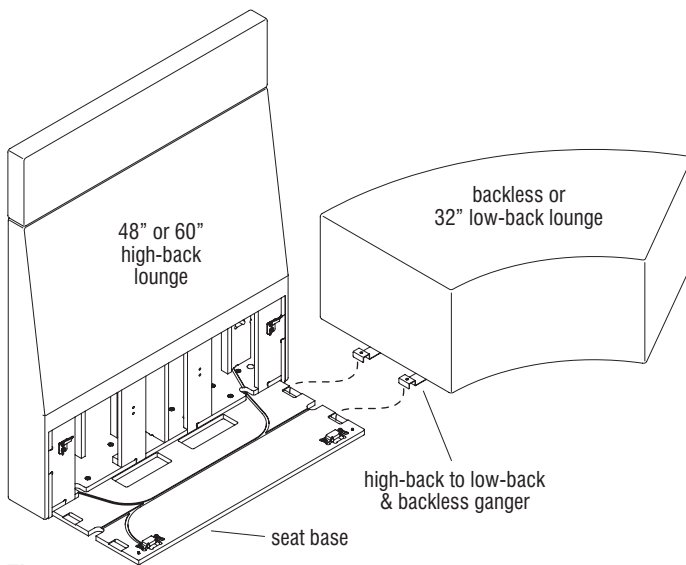

Figure 4
5. Carefully turn the backless or low-back lounge unit into the upright position and move the backless or low-back lounge unit next to the side of the high-back lounge unit (Figure 4).
6. Lift the backless or low-back lounge unit above the slots of the high-back lounge seat base. Carefully lower the lounge unit while guiding the high-back to low-back gangers on the lounge unit into the high-back lounge seat base slots (Figure 4 & Detail F).